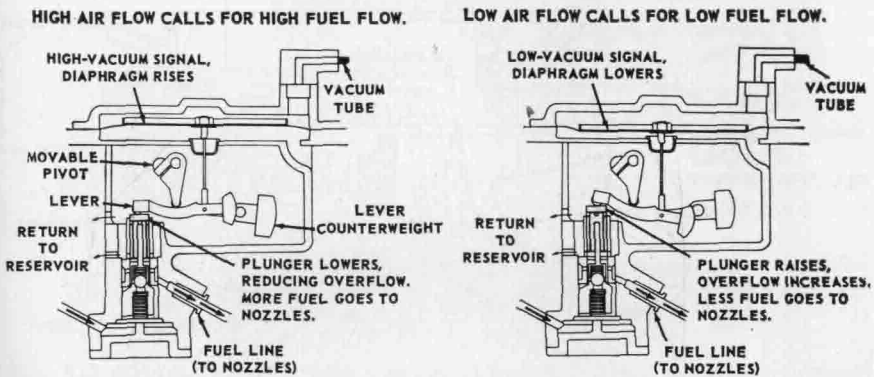
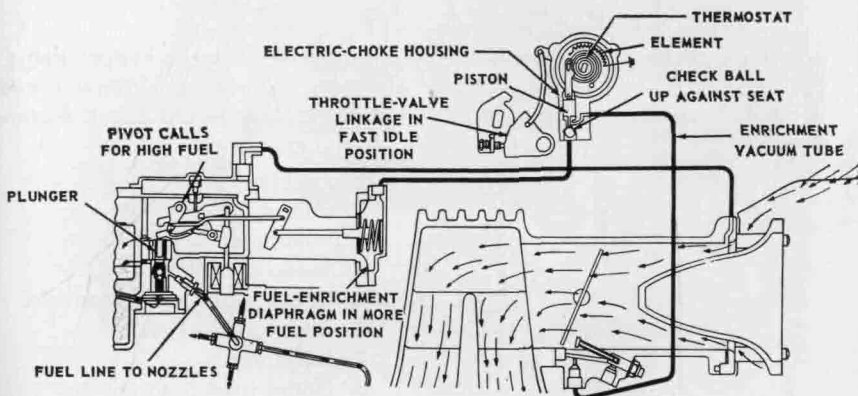

FIG. 6-7. Method of controlling amount of fuel delivered to injection nozzles. (Chevrolet Motor Division of General Motors Corporation)
FIG. 6-9. Choke system for cold starting. (Chevrolet Motor Division of General Motors Corporation)
reservoir. The direction it flows depends upon the position of the plunger. Two positions of the plunger are shown in Fig. 6-7. To the left, the plunger is lowered so as to cause delivery of more fuel to the injection nozzles. This action results when the throttle is opened fairly wide and a high vacuum is being applied to the vacuum tube and to the vacuum diaphragm. The diaphragm lifts, raising the lever so that the lever pivots around the movable pivot, pushing down on the plunger. To the right in Fig. 6-7, the condition during low air flow is shown. Here, there is a low vacuum and the vacuum diaphragm has relaxed and permitted the lever to fall. Therefore, the plunger pushes up farther and less fuel flows to the nozzles.
1. *Acceleration.* The movable pivot enters into the control of the fuel flow during both acceleration and during cold starting. Figure 6-8 shows the controls used to obtain fuel enrichment during acceleration. An enrichment vacuum tube is connected between the air meter and a fuel-enrichment diaphragm. When the throttle is opened wide for fast acceleration, the vacuum in the air meter drops. This allows the fuel-enrichment diaphragm to relax so the spring pushes the diaphragm to the left (in Fig. 6-8). Through linkage, this pushes the movable pivot to the left and it assumes the position shown in Fig. 6-9. Now, with the pivot to the left, the plunger is forced down into the position in which it is shown to the left in Fig. 6-7. With more fuel flowing to the injection nozzles, a richer mixture and improved acceleration are attained.
2. *Cold starting.* An electrically heated choke enters into the action to provide control of fuel intake during cold starting (Fig. 6-9). Note that this illustration shows the electric choke cut into the fuel-enrichment vacuum line. On cold starts, vacuum in the choke housing from the fuel-enrichment vacuum line lifts a check ball and cuts off the vacuum to the enrichment diaphragm. Then the diaphragm relaxes and shifts the movable pivot to the left (in Fig. 6-9). In this position, the lever forces the plunger down so that more fuel